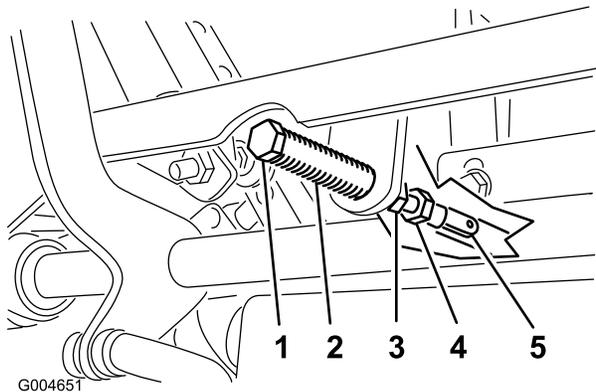

Figure 56
5. Pull the lever back until the clevis pin (on an arm above the pivot shaft) contacts the end of the slot (just beginning to put pressure on the spring) (Figure 56).
7. If adjustment is needed, loosen the nut and jam nut against the yoke (Figure 56).
8. Applying slight rearward pressure on the motion control lever, turn the head of the adjustment bolt in the appropriate direction until the control lever is centered in the neutral lock position (Figure 56).